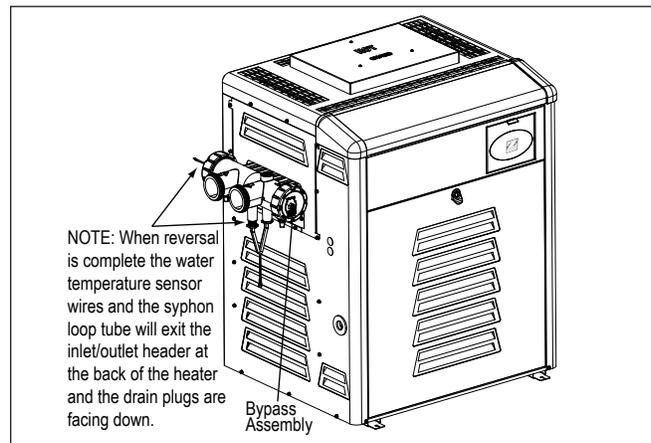

Figure 9. Water Connections Reversed
13. Place the inlet/outlet header over the bolts and gasketed tubes on the left side of the tube assembly. Make sure the high limit devices are on the bottom. Refer to Figure 9. Align the bolt and tube holes in the header with the bolts and tubes in the header bar and slide the assembly together.